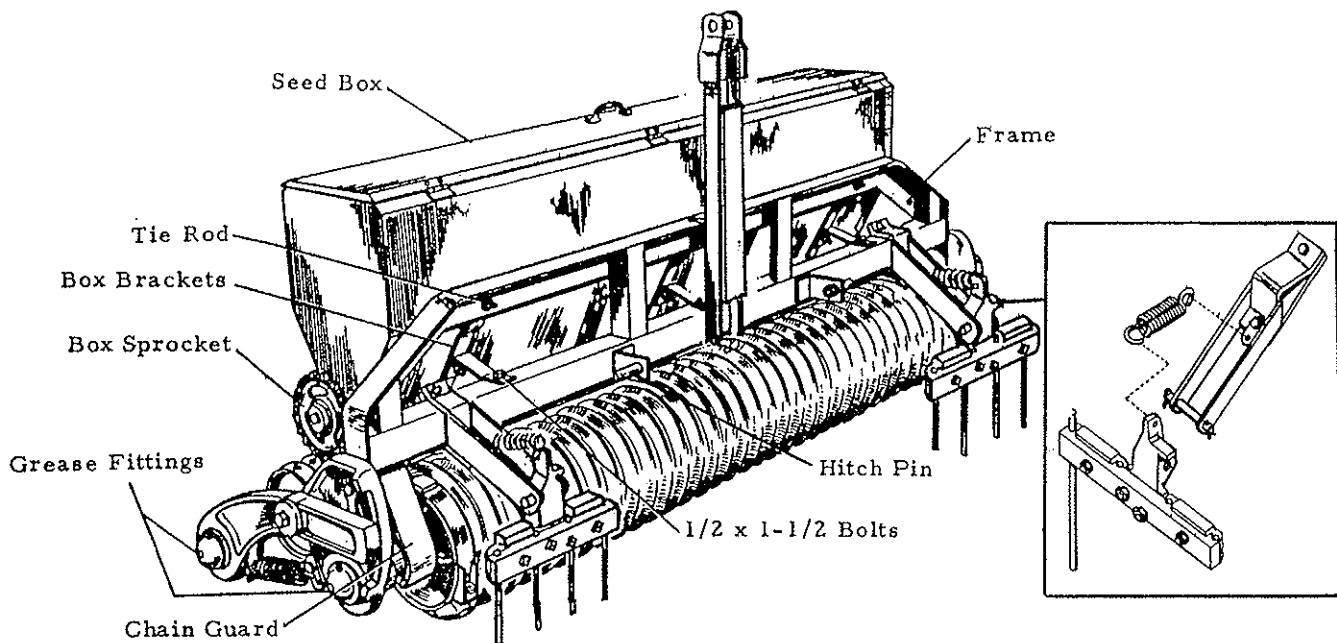

Figure 3. Mounting Box to Frame
1. Set the frame (Fig. 3) in position between the end brackets.
3. Bolt the chain guard (Fig. 3) to the right hand end bracket through the lower hole, using the $1/2 \times 1-3/4$ in. bolt.
1. Attach the three box brackets (Fig. 3) to the box with three $3/8 \times 1-1/2$ in. bolts, lockwashers and nuts.
5. Attach the box brackets to the frame with three $1/2 \times 1-1/2$ in. bolts, lockwashers and nuts (Fig. 3).
8. Run the chain over the box sprocket (Fig. 3) and over the idler attached to the right hand end bracket.
9. Install the hitch pins, from the bag assembly, in the angle clips on the frame. The pins must point outward as shown in Fig. 3. Use lockwashers and nuts to hold the pins in place.